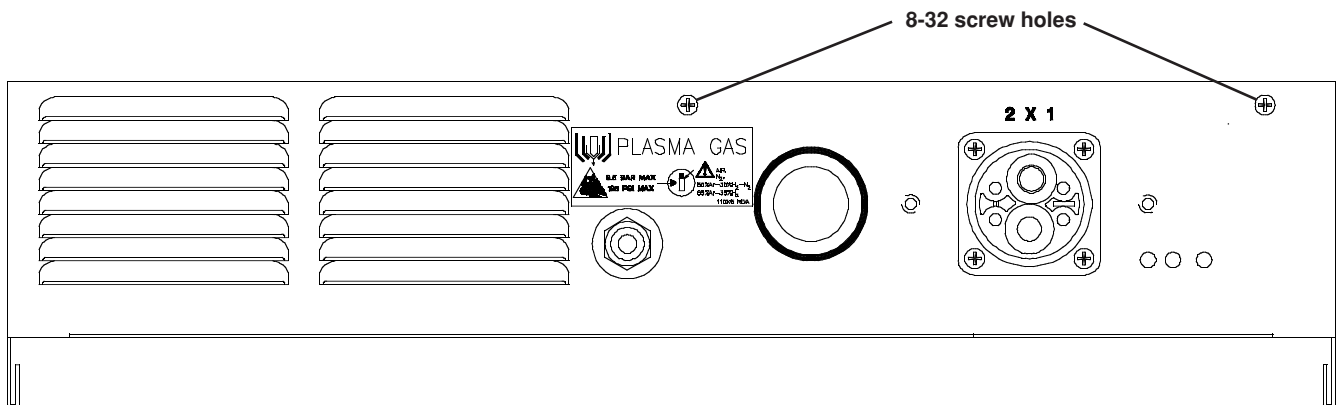

Figure 3-4 Plasma Gas Console Connections and Torch Connection
1. When using **nitrogen or argon/hydrogen** as the plasma gas, connect hose from source to the connector on the rear of the plasma gas console located on the top of the power supply labeled **PLASMA GAS**. (Fig. 3-4)